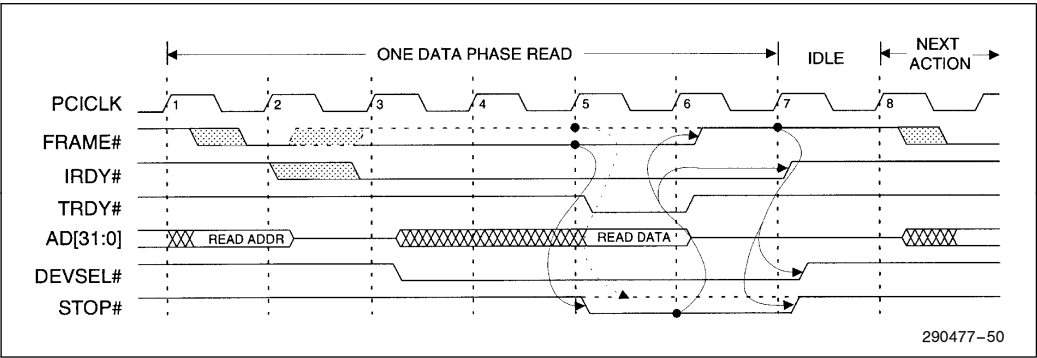

Figure 8. PCI Master Read from the PCEB (Burst with Target Termination)
The cycle between clocks 7 and 8 in Figure 8 is called an idle cycle. Idle cycles appear on the PCI Bus between the end of one transaction and the beginning of the next. An idle cycle occurs when both FRAME# and IRDY# are negated.
**As a PCI target**, the PCEB responds to both I/O and memory read transfers. Figure 8 shows the PCEB, as a target, responding to a PCI master read cycle. For multiple read transactions, the PCEB always target terminates after the first data read transaction by asserting  $\text{STOP}\#$  and  $\text{TRDY}\#$ . These signals are asserted at the end of the first data phase. For single read transactions, the PCEB completes the cycle in a normal fashion (by asserting  $\text{TRDY}\#$  without asserting  $\text{STOP}\#$ ). Figure 8 shows the fastest PCEB response to an access of an internal configuration register. During EISA Bus read accesses, the PCEB always adds wait states by negating  $\text{TRDY}\#$  until the transfer on the EISA Bus is completed.
When the PCEB, as a target, samples  $\text{FRAME}\#$  active during a read cycle and positively decodes the cycle, it asserts  $\text{DEVSEL}\#$  on the following clock (clock 3 in Figure 8). Note that, if the PCEB subtractively or negatively (82374SB only) decodes the cycle,  $\text{DEVSEL}\#$  is not asserted for two to three  $\text{PCICLK}'\text{s}$  after  $\text{FRAME}\#$  is sampled active. (see Section 5.1.9, Device Selection). When the PCEB asserts  $\text{DEVSEL}\#$ , it also drives  $\text{AD}[31:0]$ , even though valid data is not available.  $\text{TRDY}\#$  is also driven from the same clock edge but it is not asserted until the PCEB is ready to drive valid data.  $\text{TRDY}\#$  is asserted on the same clock edge that the PCEB drives valid data on  $\text{AD}[31:0]$ . If the PCEB presents valid read data during the first data phase and  $\text{FRAME}\#$  remains active (multiple transaction indicated), the PCEB asserts  $\text{TRDY}\#$  and  $\text{STOP}\#$  to indicate target termination of the transfer.